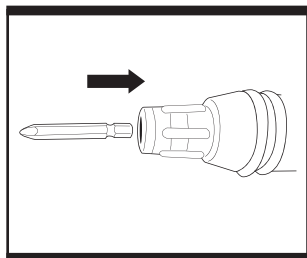

Fig. 1
1. INSTALLATION DES EMBOUTS (Fig. 1)